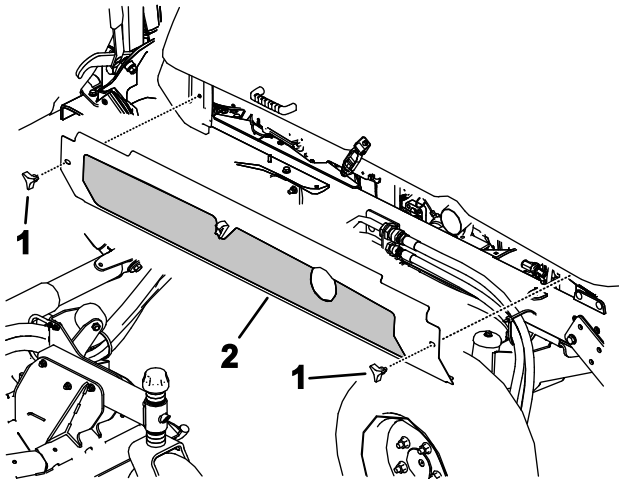

Figure 113
4. Loosen the knobs and remove both side shrouds (Figure 113).
5. Install the side shrouds (Figure 113).